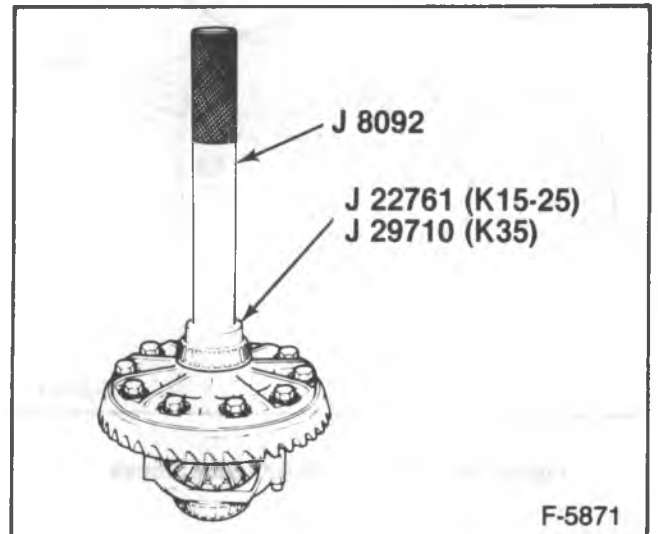

Figure 26—Installing the Differential Side Bearing
- Bolts (34) alternating in progressive steps to 120 N·m (88 ft. lbs.).
7. Side bearings (33), using J 22761 (K15-25 models) or J 29710 (K35 models) and J 8092 (figure 26).